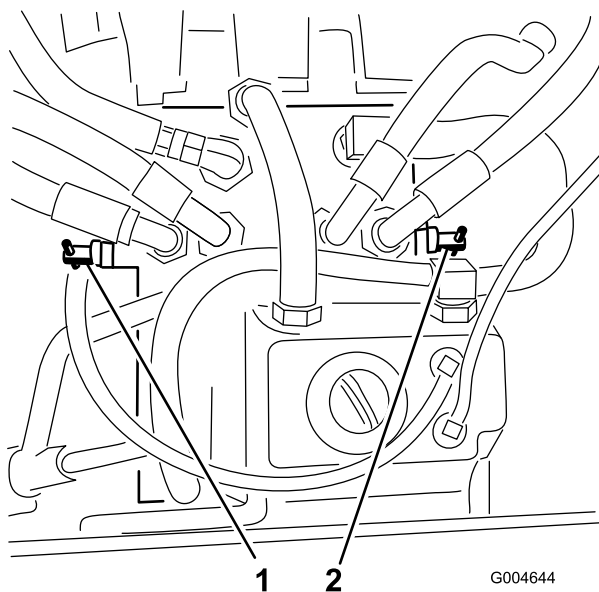

Figure 25
2. Locate the bypass valves (Figure 25) and rotate each bypass valve counterclockwise 1 turn.
4. Close the valves by rotating each valve 1 clockwise turn (Figure 25).